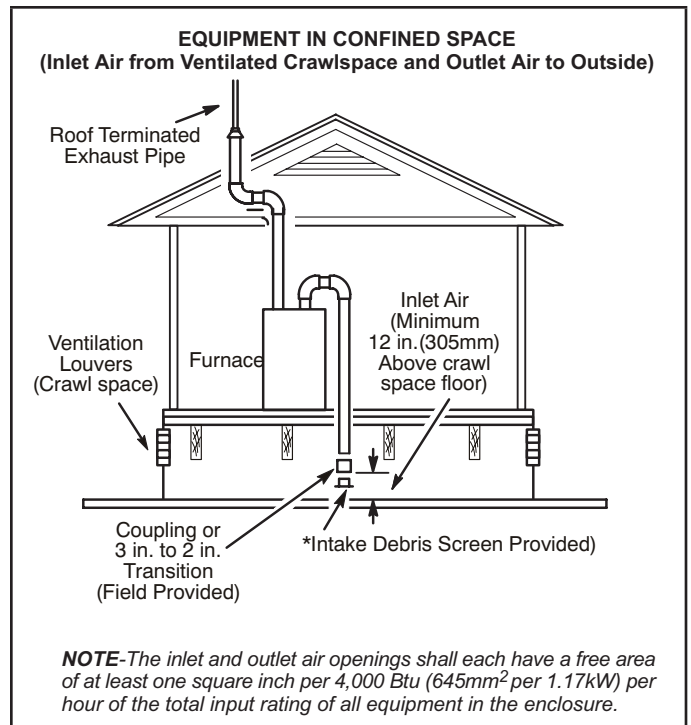

FIGURE 31
- 2 - If intake air is drawn from a ventilated crawlspace (FIGURE 31) or ventilated attic (FIGURE 32) the exhaust vent length must not exceed those listed in TABLE 8. If 3" diameter pipe is used, reduce to 2" diameter pipe to accommodate the debris screen.